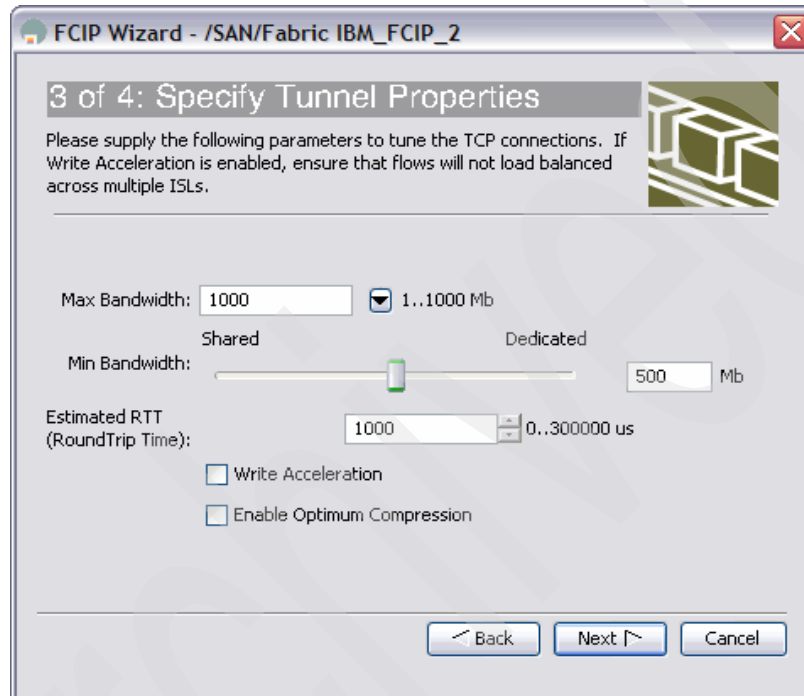

Figure 12-18 FM FCIP Wizard
- a. Configure the tunnel properties for this second link (Figure 12-18).